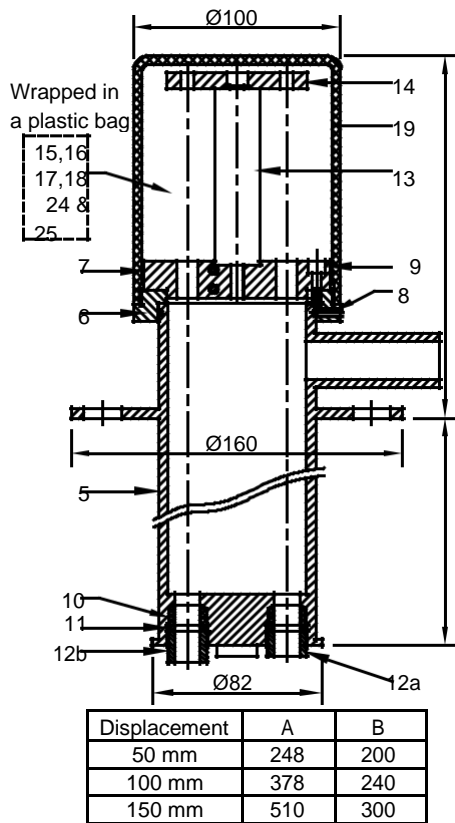

Figure 2.1 - Three point BHE reference head assembly
The sensor shaft is fixed to female thread in connecting rod through a sensor lock nut (18), link plate (16), sensor tightening nut (17) and a reference button (15) - refer to figures 2.1 and 2.2. The outside body of sensor is fixed to a guide plate (7) in the flanged housing at the face of the borehole. The system is rugged and is protected by a protecting cover (19). Flange housing (5). Nipple (22) is an integral part of flanged housing. Through nipple (22) cable for sensors can be taken to a junction box (23) and then through a multi-core cable to any distant location.
For layout drawings of potentiometric borehole extensometers: See figures 2.1 – 2.2.
Refer to figures 2.1 & 2.2 for details of 1-3 point BHE reference head assembly. Reference head assembly is supplied packed from factory as per items listed in figure 2.1. The sensor is separately supplied but it is very convenient to assemble it at site inside the reference head assembly along with the connecting rod ends according to instructions given in § 3.